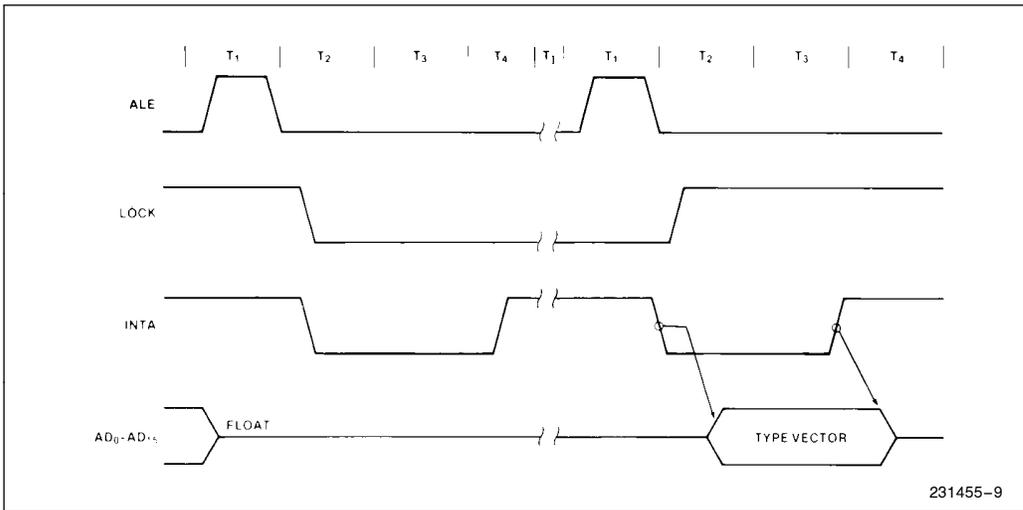

Figure 6. Interrupt Acknowledge Sequence
During the response sequence (Figure 6) the processor executes two successive (back-to-back) interrupt acknowledge cycles. The 8086 emits the LOCK signal from T2 of the first bus cycle until T2 of the second. A local bus "hold" request will not be honored until the end of the second bus cycle. In the second bus cycle a byte is fetched from the external interrupt system (e.g., 8259A PIC) which identifies the source (type) of the interrupt. This byte is multiplied by four and used as a pointer into the interrupt vector lookup table. An INTR signal left HIGH will be continually responded to within the limitations of the enable bit and sample period. The INTERRUPT RETURN instruction includes a FLAGS pop which returns the status of the original interrupt enable bit when it restores the FLAGS.
The basic difference between the interrupt acknowledge cycle and a read cycle is that the interrupt acknowledge signal ( $\overline{INTA}$ ) is asserted in place of the read (RD) signal and the address bus is floated. (See Figure 6.) In the second of two successive  $\overline{INTA}$  cycles, a byte of information is read from bus